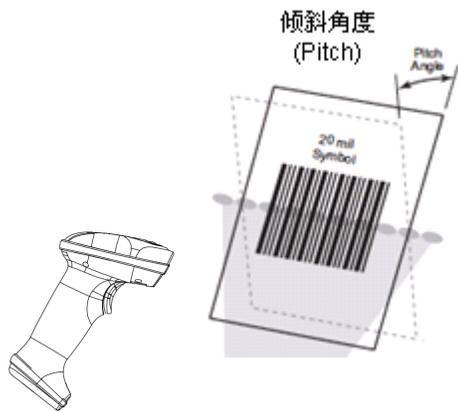

Fig. 1-11
- ◇ Pitch : $\pm 60^\circ$, 0° Roll and 0° Skew (Fig. 1-11)